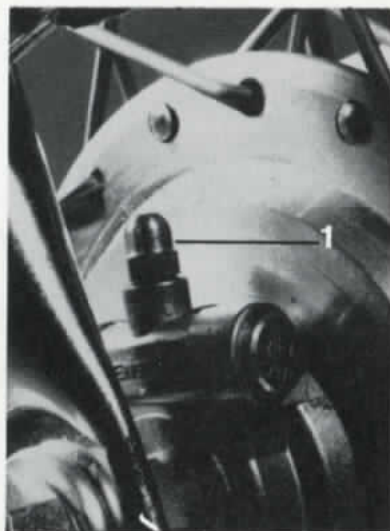

Fig. 16
- a) At the lubrication nipple (fig. 16/1) for the speedometer drive, one or two strokes out of the grease gun.